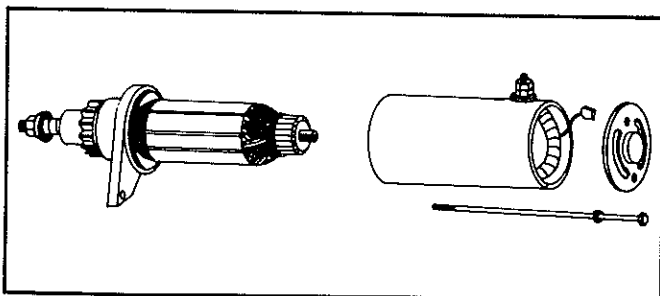
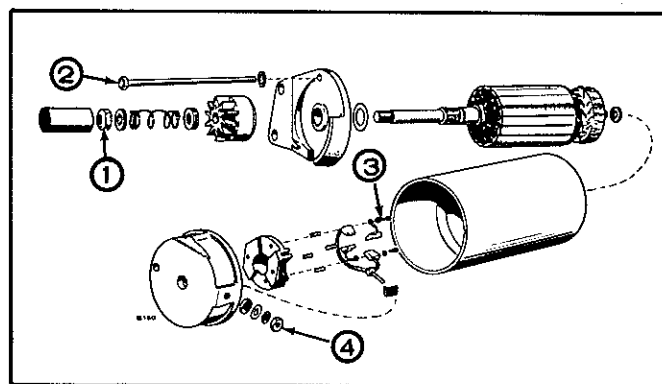

FIGURE 18-45. STARTER DISASSEMBLY (SPEC A)
FIGURE 18-46. STARTER DISASSEMBLY (SPEC B)
1. Remove the through-bolts and separate the end cap, the housing and the armature (see Figure 18-45, Spec A; Figure 18-46, Spec B).
5. Torque stop nut (Figure 18-46, item 1) to a value of 20 to 25 ft-lbs. (27 to 34 N•m). Hold armature in a vise.
6. Torque thru-bolts (Figure 18-46, item 2) to a value of 4-1/2 to 6 ft-lbs. (6.1 to 8.1 N•m).
2. Torque bolts (Figure 18-45, item 3) to a value of 3 to 3-1/2 ft-lbs. (4.1 to 4.7 N•m).
3. Torque nut (Figure 18-46, item 4) to a value of 4 to 5 ft-lbs. (5.4 to 6.8 N•m).